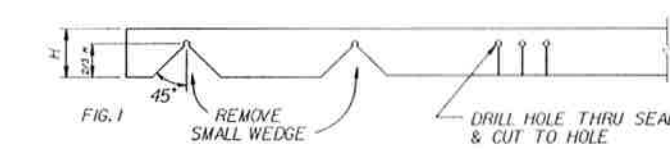

FIG. 1
1. Locate 1/2" dia. hole and drill thru seal as shown in FIG. 1 using a standard twist drill.
2. Using a sharp long blade knife or hacksaw, cut lower section of seal to 1/2" dia. hole as shown in FIG. 1.
3. Using a sharp long blade knife, cut along 45° sloped lines and remove triangular shaped piece of seal as shown in FIG. 1.